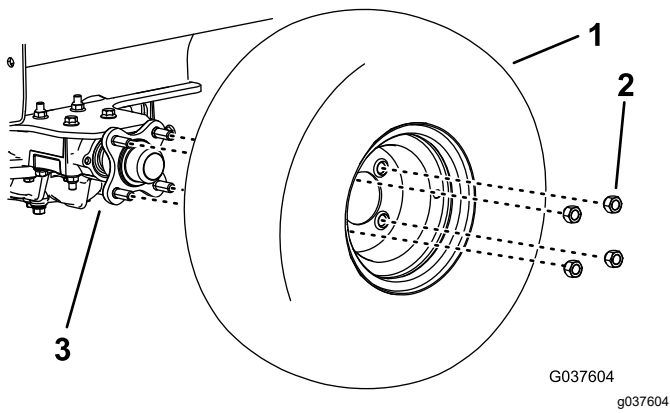

Figure 8
- Remove the right tire (Figure 8).
13. Install the right tire, torque the lug nuts to 115 to 142 N·m (85 to 105 ft-lb), and lower the machine (Figure 8).